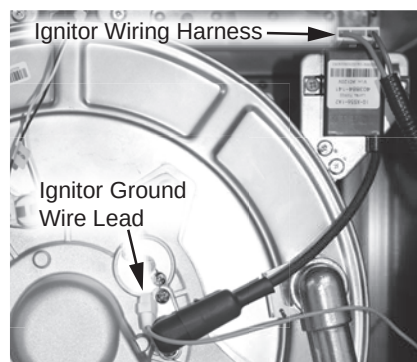

Figure 53 - Ignitor wiring harness location
4 Locate the ignitor wiring harness and ignitor ground connection. See Figure 53. Disconnect them and move the wires aside.
6 Locate and remove the two (2) screws securing the grounding wires to the grounding plate. See Figure 53. Do not remove the third ground connection that is not part of the wiring assembly. Place screws aside in a safe place for reinstallation.